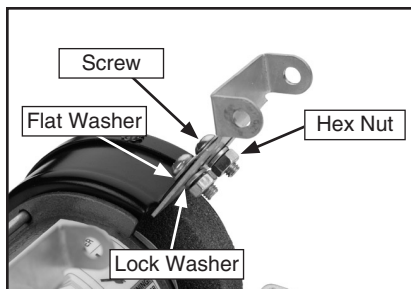

Figure 3. Eye Shield Bracket Installation.
1. Attach the eye shield brackets to the buffer with the 5mm Phillips head screws, flat washers, lock washers and hex nuts, as shown in **Figure 3**.